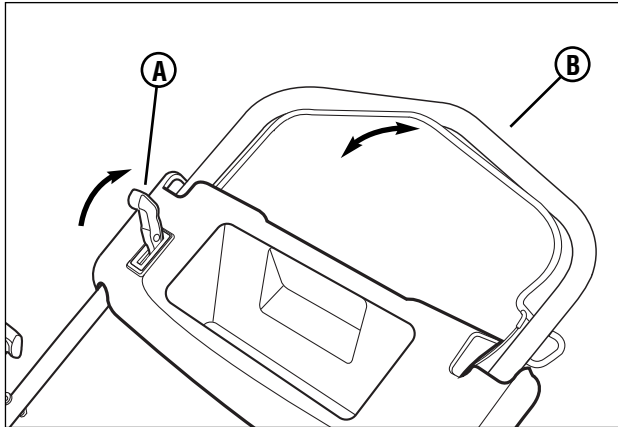

Figure 4: Drive handle
2. Pull the drive handle lock lever (**A, Figure 4**) fully back to the unlock position.